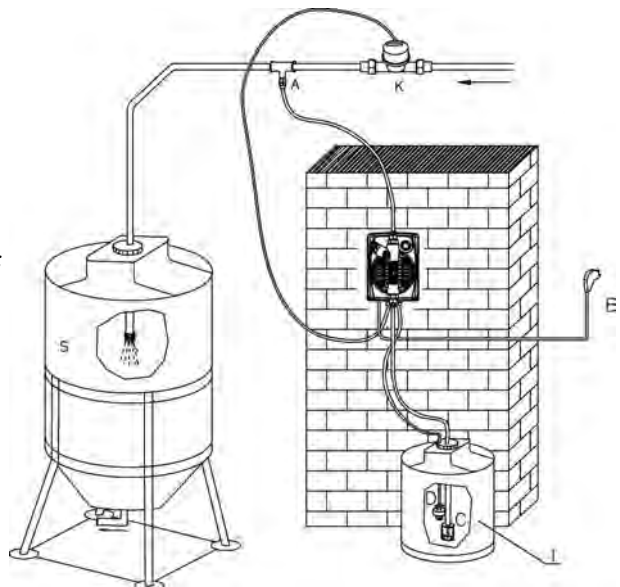

Fig. 12
6.2 - TYPICAL INSTALLATION (Fig. 12)